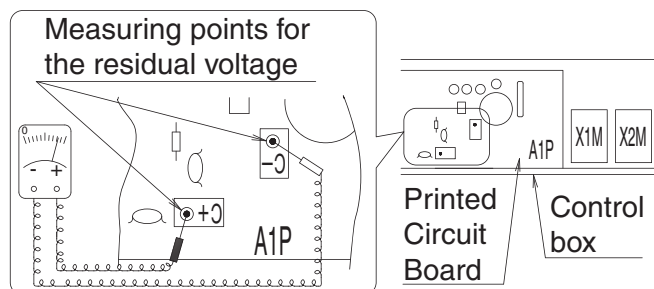

Fig. 1
- After opening the control box lid, measure residual voltage between the points shown **Fig. 1** on the Printed Circuit Board by the tester without touching the live part and confirm that the residual voltage is DC50V or below.